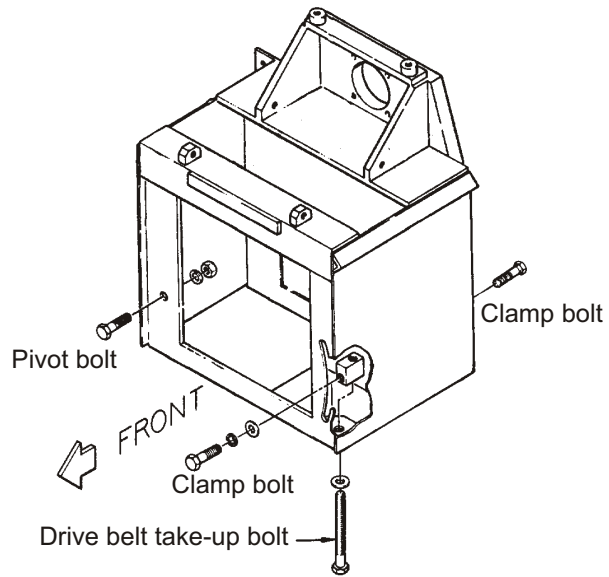
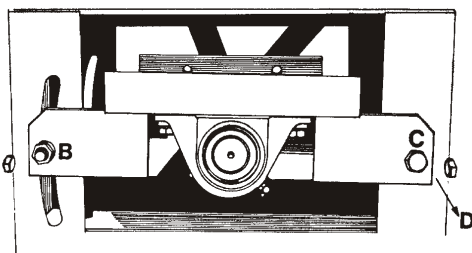

Figure 5-19 Twine Needle Yoke in Home Position
Figure 5-18 Take-up Plate
2. If adjustment is necessary, loosen clamp bolts (A) (front) and (B) (back) and pivot bolts (C) and (D) (see Figure 5-18 and Figure 5-19).
Tighten take up bolt until the rear end of the drive unit belt take up has moved down approximately 1/4" (see Figure 5-19).
3. Tighten (B) (see Figure 5-18).
6. Tighten clamp bolts (A) and (B) and pivot bolts (C) and (D), see Figure 5-18 and Figure 5-19.